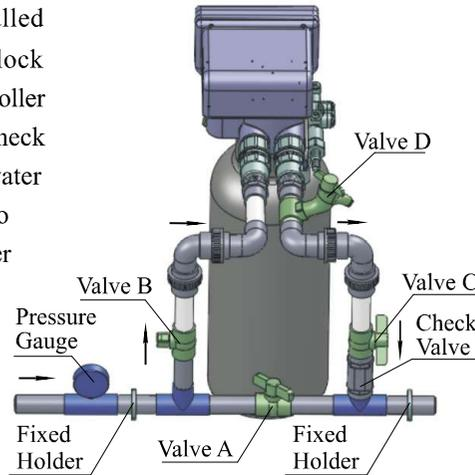

Figure1-3
④Pipeline connection
- a. As Figure1-3 shows, install a pressure gauge in water inlet.